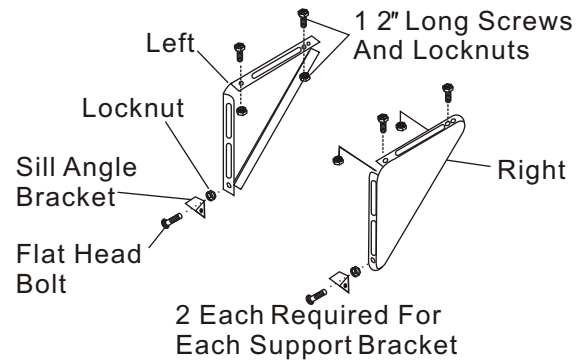

Fig. 15B
2. Assemble sill angle bracket to support brackets at the marked position (Fig. 15B). Hand tighten, but allow for any changes later.